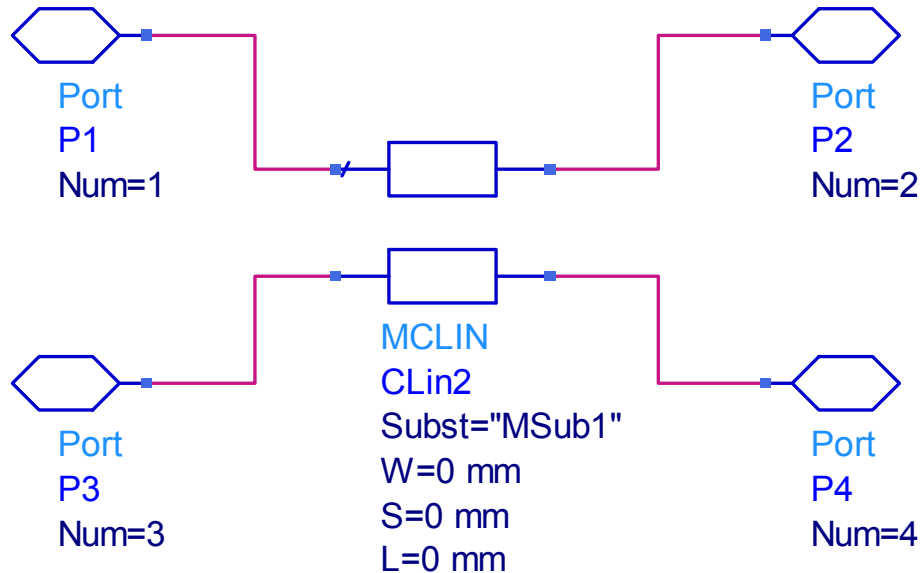

Figure 1: Coupled Line Schematic
5. Place a port at each corner of the MCLIN element; place Port 1 on the upper left (input), Port 2 on the upper right (through), Port 3 on the lower left (coupled), and Port 4 on the lower right (isolated). Your schematic should look similar to the schematic in Figure 1. Save your design.